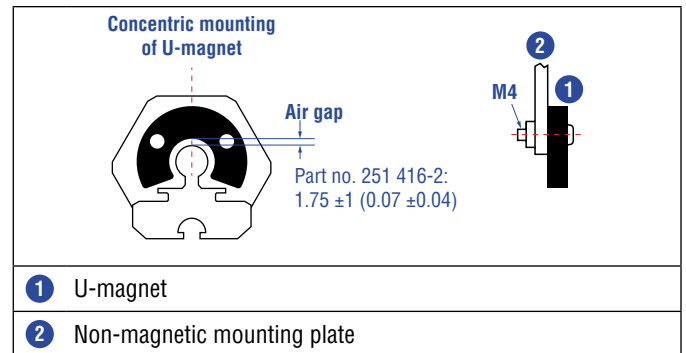
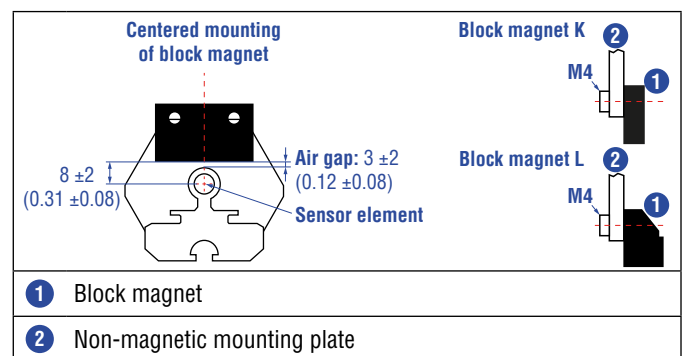

Fig. 46: Mounting of U-magnet (part no. 251 416-2)
Fig. 47: Mounting of block magnet K (part no. 251 298-2) and block magnet L (part no. 403 448)
- Mount block magnets centrically over the sensor rod or the sensor profile. The maximum permissible air gap must not be exceeded (Fig. 46/Fig. 47).